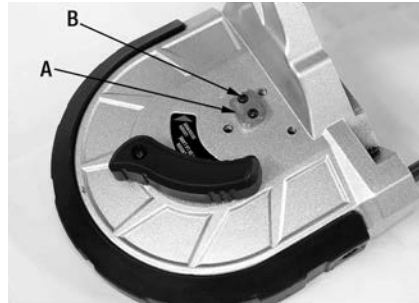

FIGURE 1
1. First step is to install the fixing block (A) Fig.1 to the Bandsaw body with the provided pan head screws (B) using a screwdriver.